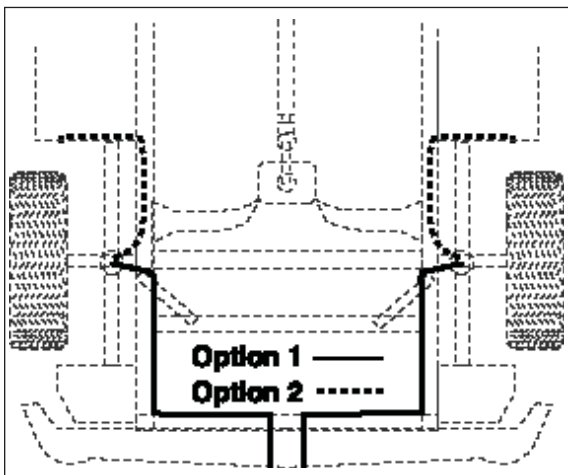

Figure 9
1. Insert a length of air line into the open port at the top of the air spring. Use Figure 9 as an air line routing guide.